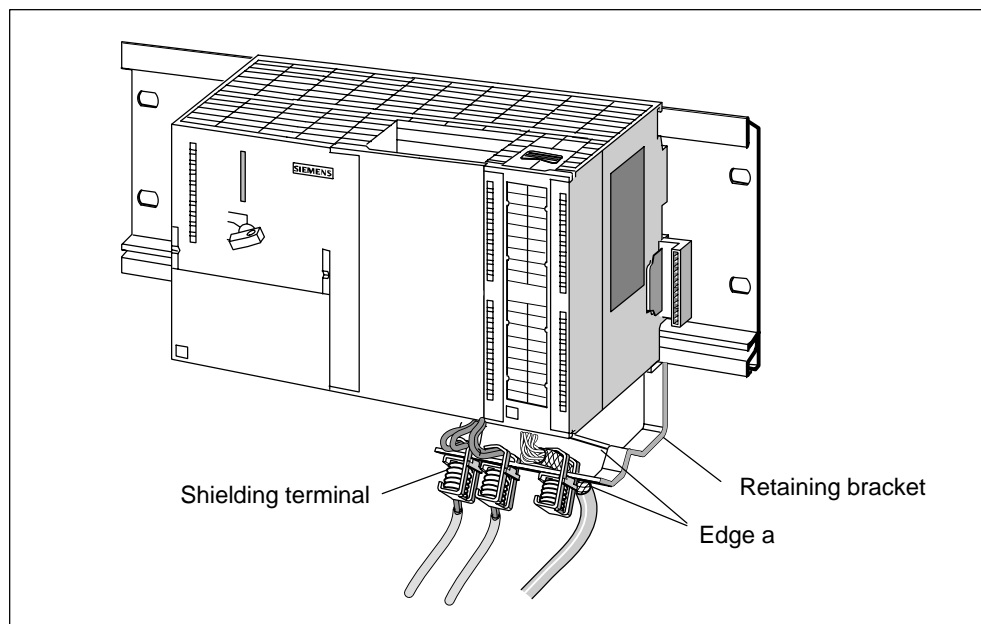

Fig. 6-12 Fitting the shield connecting element
3. A slotted web is fitted on the underside of the shielding terminal. Fit the shielding terminal on edge a of the retaining bracket in this position (see Fig. 6-12). Press the shielding terminals down and pivot them into the required position.